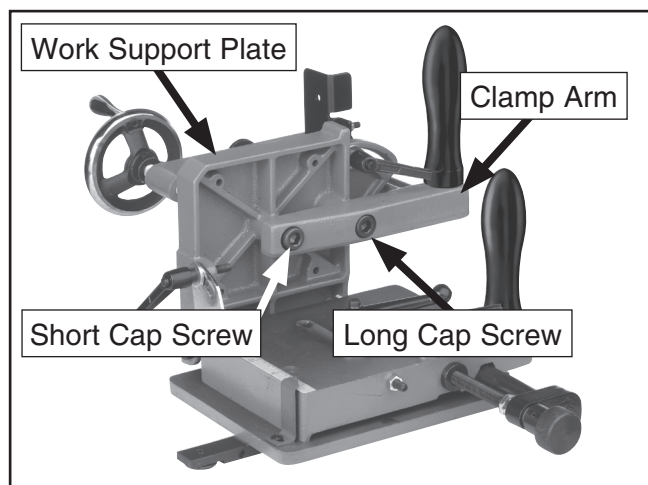

Figure 2. Partial assembly.
1. Attach the clamp arm to the work support plate with the cap screws and lock washers as shown in **Figure 2**.
Note: The cap screws are different lengths and must go into the correct holes. See **Figure 2** for the long (M10-1.5 x 25mm), and short cap screw (M10-1.5 x 20mm) hole locations.
2. Install both handles into the jig as shown in **Figure 2**.